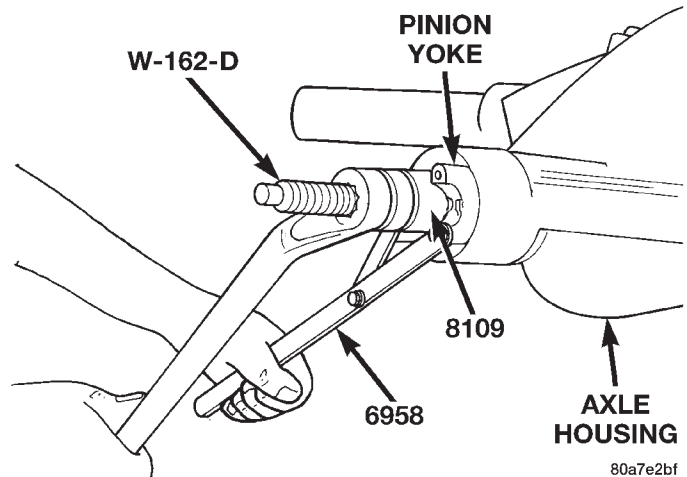

Fig. 38 Pinion Yoke Installation
(8) Install pinion gear in housing.
(9) Install yoke with Installer W-162-B, Cup 8109, and Holder 6958 (Fig. 38).
(10) Install the pinion washer and a new nut on the pinion gear. Tighten the nut to 217 N·m (160 ft. lbs.).